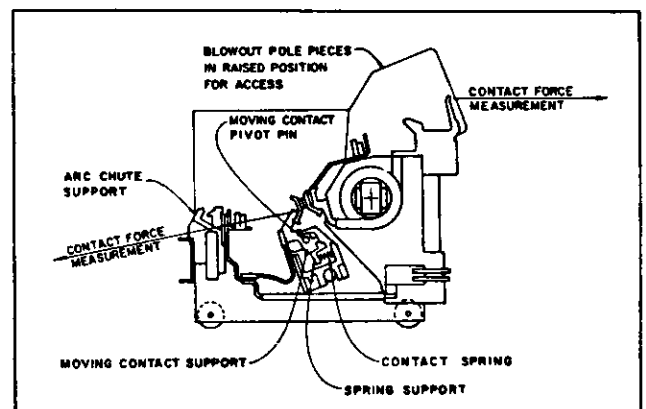

Figure 5
3. Check initial contact forces. Contact forces measured at the heel of contact inlays as shown in Figure 5 are as follows:
To measure the initial force the armature should be blocked within $1/16$ - $1/8"$ of the contact touch point. Force is then conveniently measured by looping a piece of string around the heel of the moving contact face and pulling in a direction perpendicular to the contact face as indicated in Figure 5. A small piece of cardboard or wood approximately 3" long should be suspended between the two strands of string to avoid interference with the arc chute support insulator.